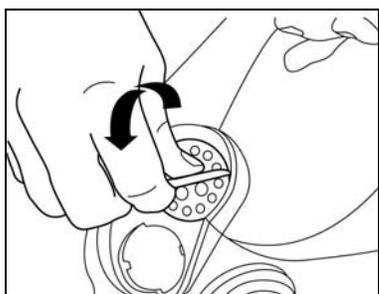

Fig. 20
4. Remove speaking diaphragm assembly by turning counter clockwise $\frac{1}{4}$ turn. (Fig 20)
4. Remove speaking diaphragm by turning counter clockwise ¼ turn. (Fig 20)